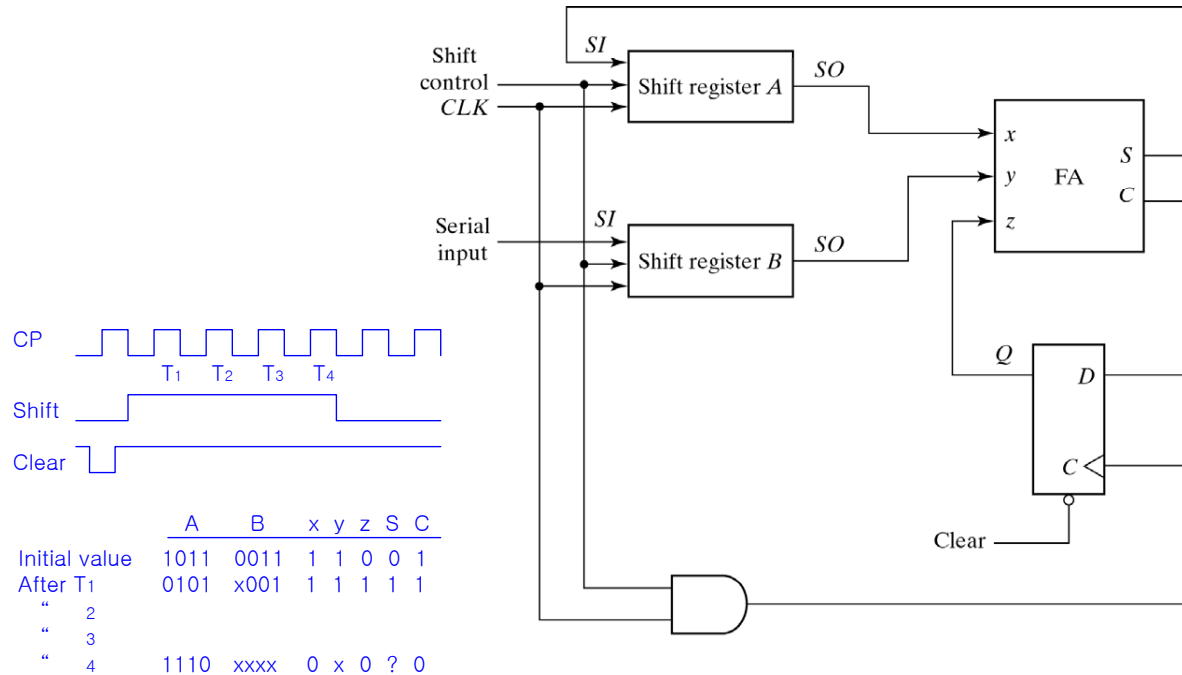

Fig. 6-5 Serial Adder
- Excitation table (If DFF is used, the result is Fig. 6-5)